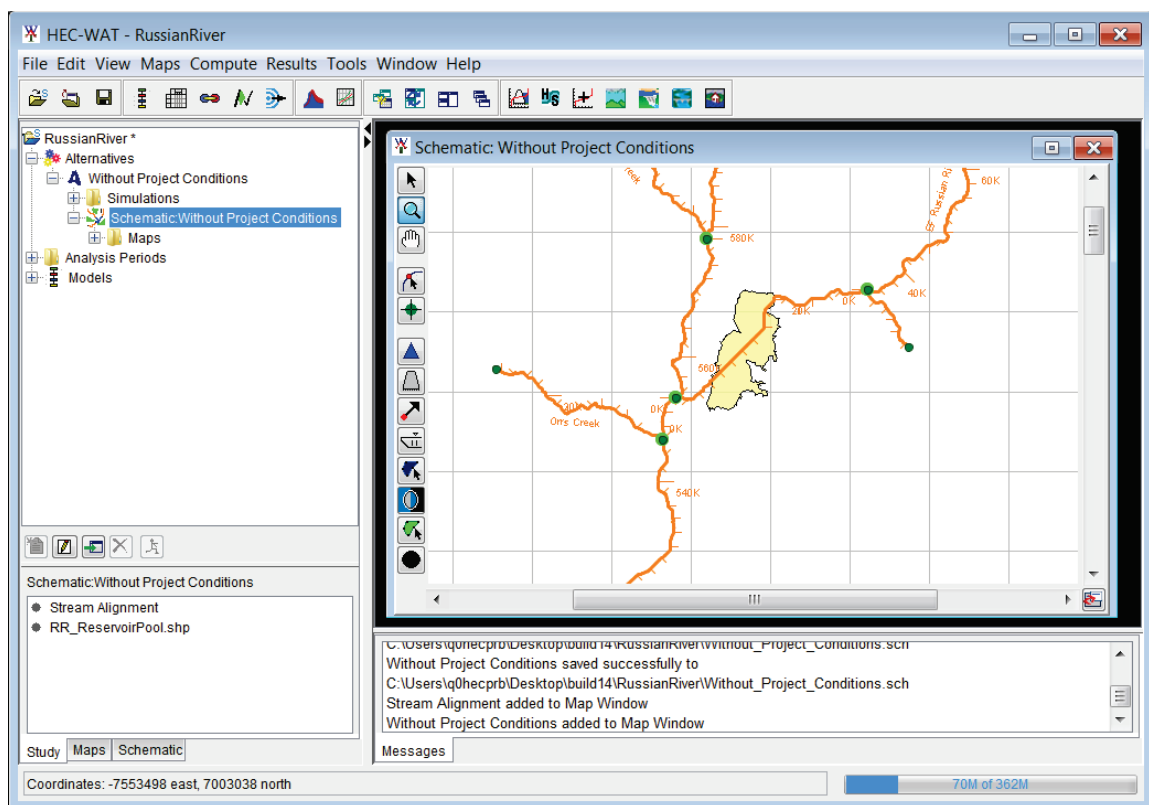

Figure I.1 HEC-WAT Main Window
1. From the HEC-WAT main window (Figure I.1), from the **Maps** menu, point to **Import**, click **Impact Areas**. The **Import Impact Areas** dialog box will open (Figure I.2). The **Shapefile Name** box figures out whether there are any polygon shapefiles available in the **maps** directory; from the box the shapefile that represents the impact areas for the study display (e.g., *RR\_ImpactAreas.shp*).
1. From the HEC-WAT main window (Figure I.1), from the **Schematic Tab**, from the **Schematics** folder, right-click on the schematic on the location where an impact area needs to be added. From the shortcut menu, click **Display in Map Window**; a schematic map window will.
1. From the HEC-WAT main window (Figure I.1), from the **Maps** menu, point to **Export**, and then click **Impact Areas**.